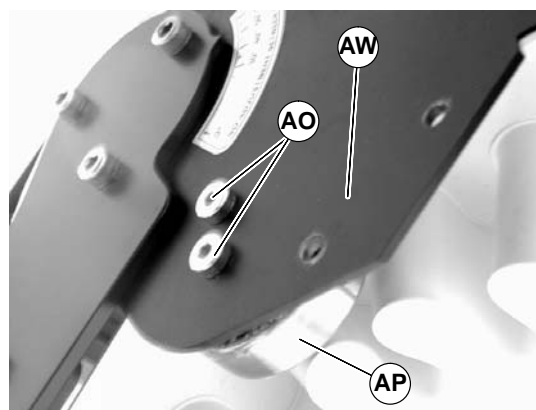

Figure 29
3. If equipped, install return roller bearing (AP of Figure 29) into knuckle plate (AW) using screws (AO).